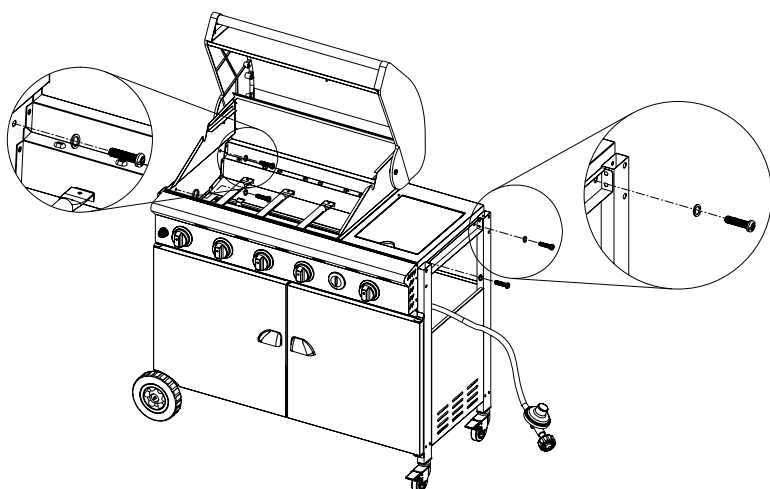

Figure 11
3. Attach the grill head to right side panel using (4) $\frac{1}{4}$ x $\frac{3}{5}$ " screws with (4) $\frac{1}{4}$ " washers. (Fig.11)